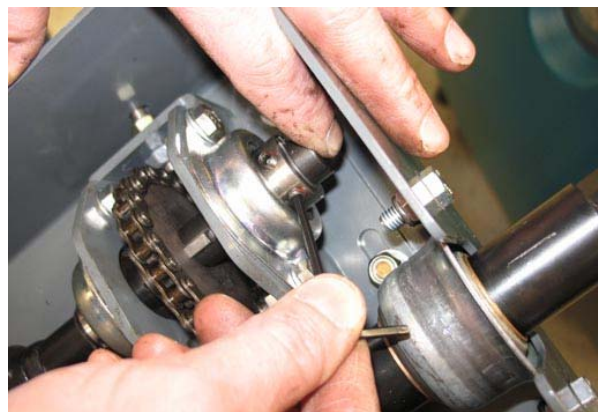
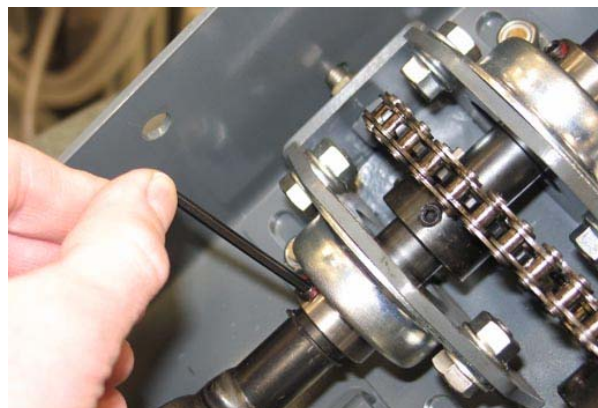

FIG. 49
FIG. 50
9. Push the support plate weldment / flange bearings firmly against the upper snap ring and tighten the set screws in both the upper and lower flange bearings. Tighten the set screws to 8.1–10.8 Nm / 72–96 lbs. (Fig. 49 / Fig. 50)